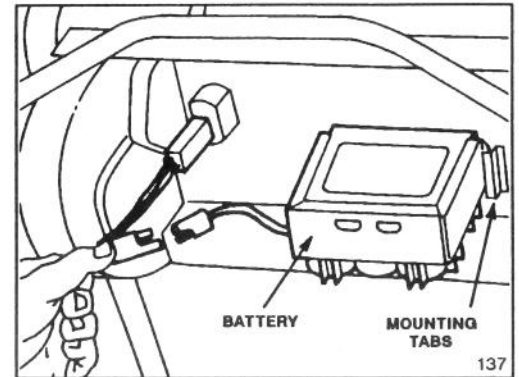

Figure 5
8. Charge battery (Key start model): refer to Charging Battery, page 12. Slide battery, decal side up, between slots on back of control panel and connect wires (Fig. 5). Insert key into switch when ready to start engine.